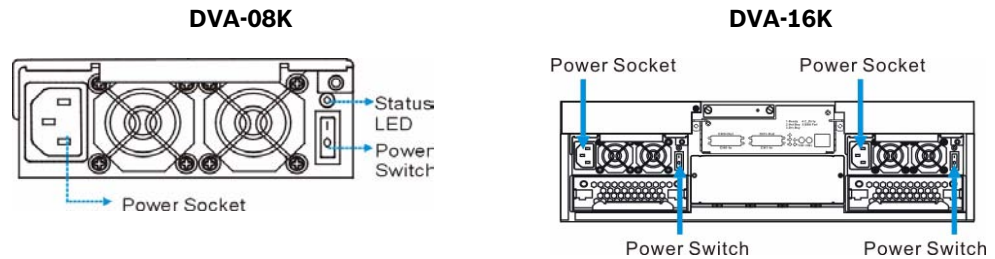

**Fig. 6.3** Drive Tray Key-Lock Rotation
4. Close the front flap on the drive tray. Make sure the front flap is closed properly to ensure that the SATA connector at the back of the drive tray is firmly connected to the corresponding connector on the mid-plane board. If the front flap is not closed properly, then the connection between the HDD and the subsystem will not be secure. To lock the flap in place, turn the key-lock until the groove on its face is in a vertical orientation. (See *Figure 6.3*)